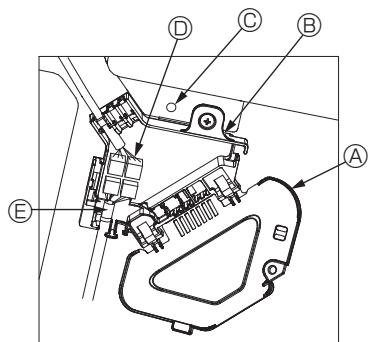

Fig. 6-9
- In the connector box, locate the junction wire for the vane motor of the grille and the wire for the vane motor, and then connect the wires. (Fig. 6-9)